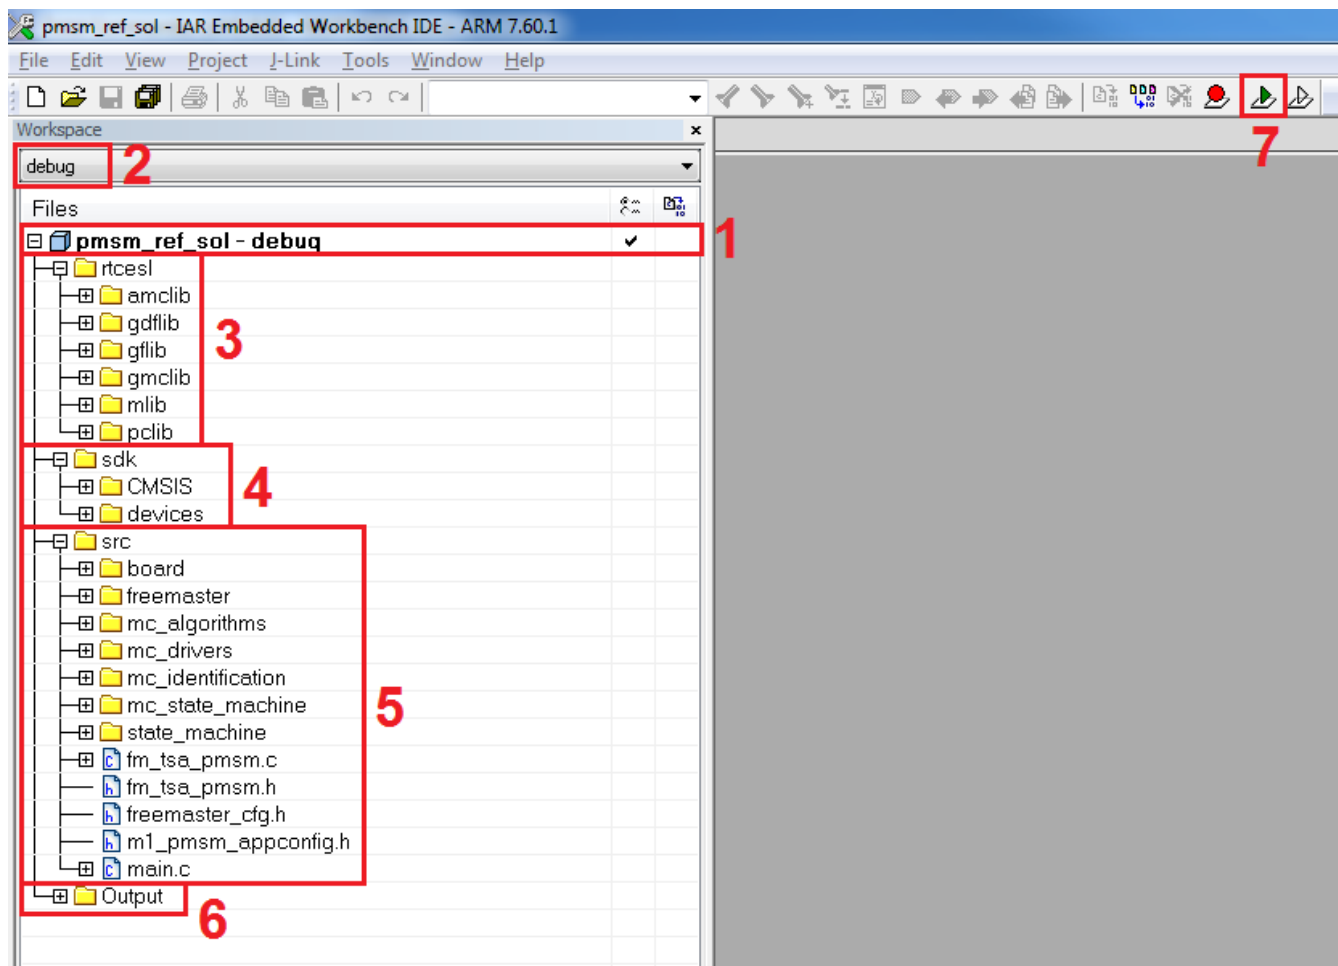

Figure 23. IAR Embedded Workbench
Use IAR Embedded Workbench IDE to compile and run the demonstration or solution projects. The first step is to choose the demonstration or solution project, development board, and MCU. For example, to run a demonstration project for the Freedom development platform and Kinetic KV10 MCU, the project is located in the *pmsm\_package/build\_demos/frdm-kv10z/iar* folder, which contains all necessary files. Double-click “*projects\_demos\_frdm-kv10z.eww*” to open this project. The point 1 in Figure 23 shows the IAR workspace with “*projects\_demos\_frdm-kv10z*” opened.
The project opened in IAR Embedded Workbench is fully configured and includes all necessary source and header files required by the application, such as startup code, clock configuration, and peripherals configuration. You can choose between two compiling conditions (“debug” or “release”), shown in Figure 23, point 2. Each of the two conditions has its own setting:
The source code shown in Figure 23 includes these source files and folders:
- Point 6—shows the output file generated by the compiler, and ready to use with the default debugger (P&E Micro – OpenSDA). This debugger is set as default for Tower boards, and can be changed in project options by right-clicking Point 1, selecting “Options”, and clicking “Debugger”. Start the project debugging by clicking Point 7 (Figure 23).